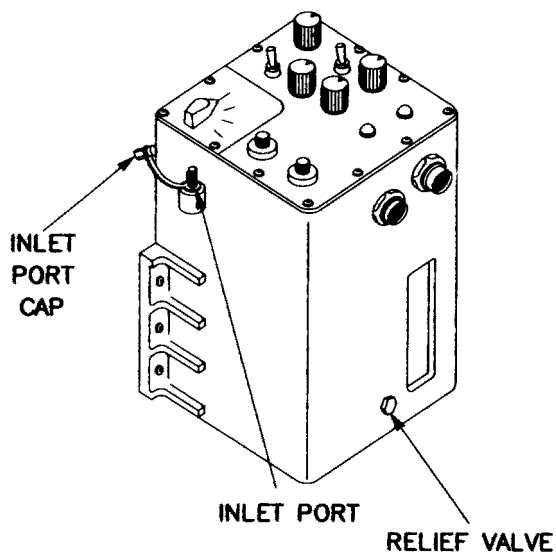

Figure 3-56 Image Control Unit
(1) Perform purging and charging procedure para 2-5.a.
(2) Purge instrument at 8 psig for 5 minutes.
(3) Ensure relief valve closes at 5 psig.
(4) Leak test for a minimum of 5 minutes.
f. Control Unit, Image (fig. 3-56).